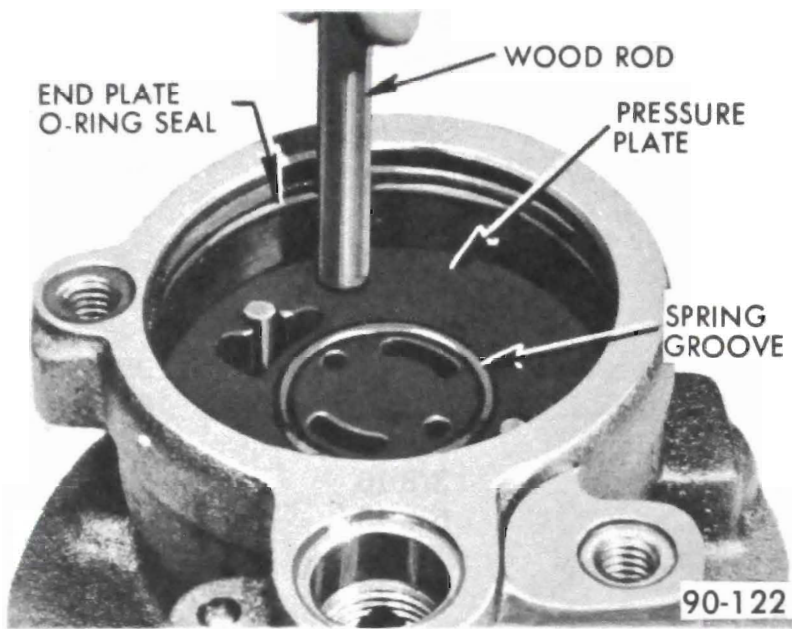

Figure 90-68 - Seating Pressure Plate in Housing
10. Lubricate the outside diameter and chamfer of pressure plate with petroleum jelly and install on dowel pins with ported face toward rotor. Dowel pins fit into slots in plate that are nearest outside diameter of plate. Use a soft plastic or wood rod and lightly tap around *outside diameter* of pressure plate to seat it. See Figure 90-68. Pressure plate will travel about 1/16" to seat. *Never press or hammer on the center of pressure plate as this will cause permanent distortion and result in pump failure.*
11. Install new end plate "O" ring seal in groove in bore of housing. Be sure not to install it in end plate retaining ring groove which is first groove from rear of housing. See Figure 90-68.